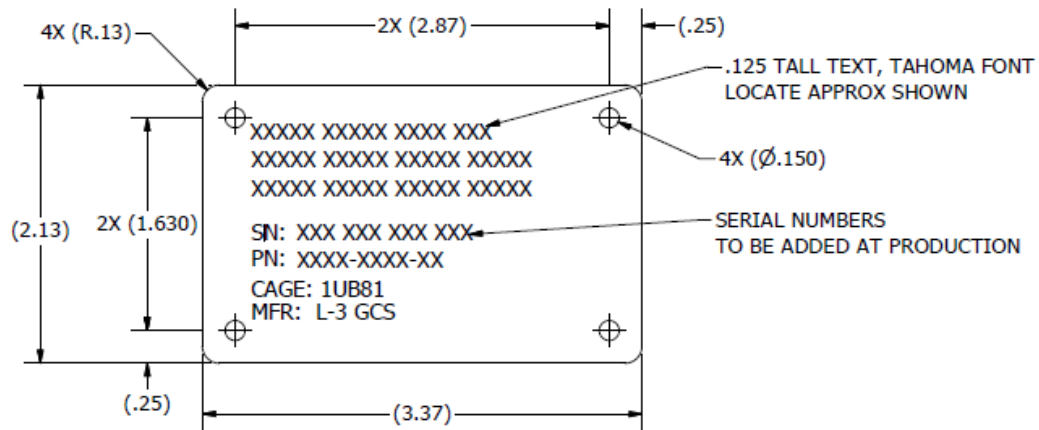

Figure 1
3.1 General layout and size of case labels is shown in Figure 1.